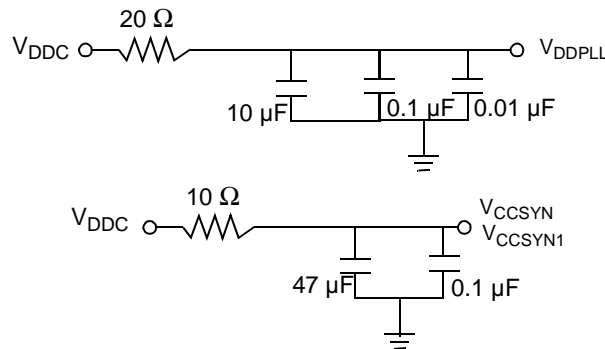

Figure 4-2. PLL Power Supply Filter Circuits
- PLL power supply filtering.** The MSC7116 V_{DDPLL} power signal provides power to the clock generation PLL. To ensure stability of the internal clock, the power supplied to this pin should be filtered with capacitors that have low and high frequency filtering characteristics. V_{DDPLL} can be connected to V_{DDC} through a 20 Ω resistor. V_{SSPLL} can be tied directly to the GND plane. A circuit similar to the one shown in **Figure 4-2** is recommended. The PLL loop filter should be placed as closely as possible to the V_{DDPLL} pin (which are located on the outside edge of the silicon package) to minimize noise coupled from nearby circuits. The 0.01 μF capacitor should be closest to V_{DDPLL} , followed by the 0.1 μF capacitor, the 10 μF capacitor, and finally the 20- Ω resistor to V_{DDC} . These traces should be kept short. V_{CCSYN} and V_{CCSYN1} should be bypassed to ground by 0.1 μF and 47 μF capacitors located as closely as possible to the device package.